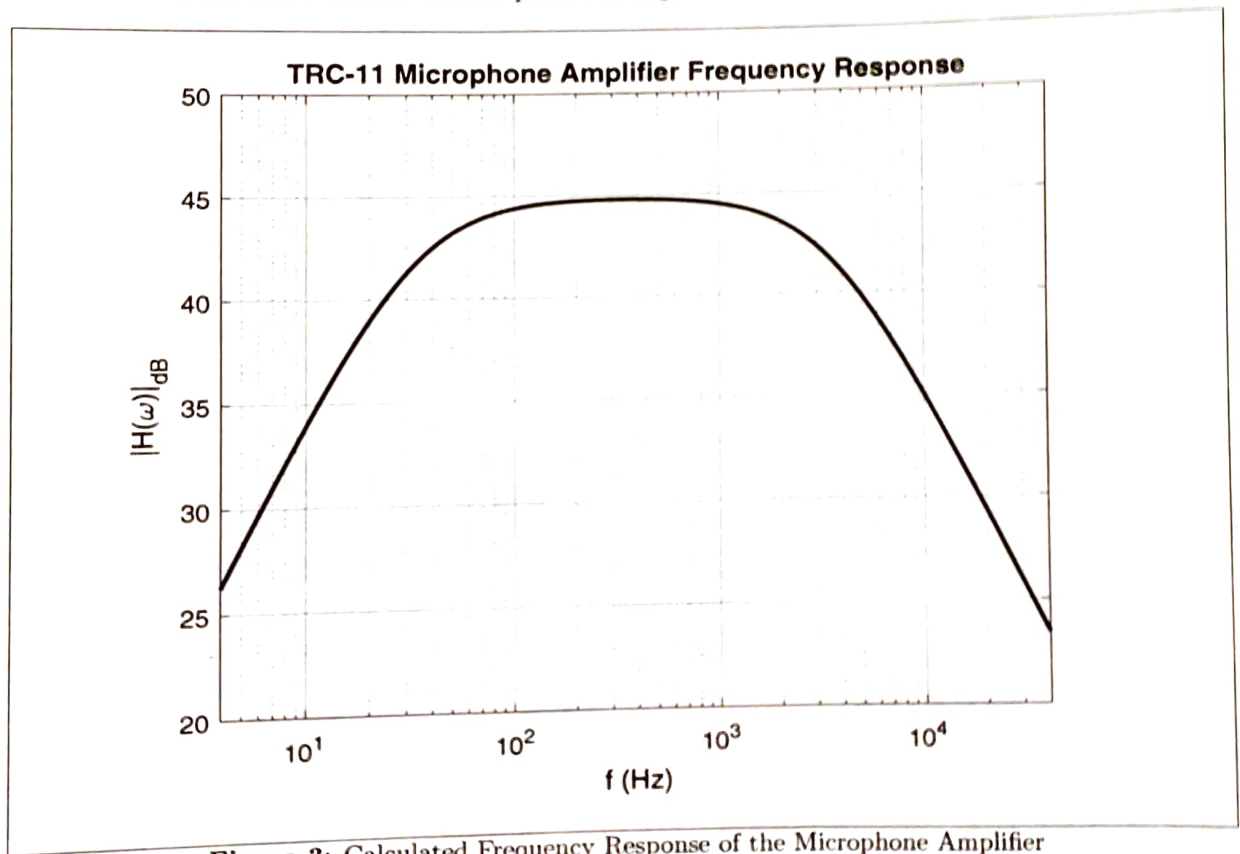

Figure 3: Calculated Frequency Response of the Microphone Amplifier
3. This transfer function in decibels is plotted in Fig. 3.